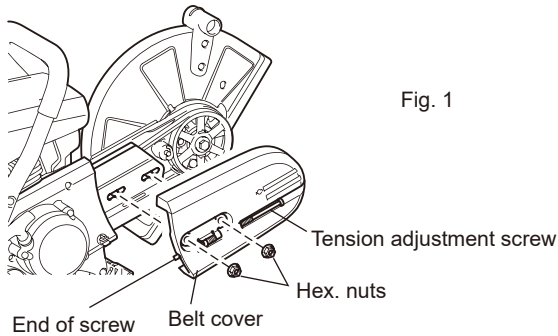

Fig. 1
- (1) Loosen tightening nut, and turn tension adjustment screw to the left until the end of the screw is visible. (Fig. 1)
- (2) Remove tightening nuts and remove belt cover. (Fig. 1)